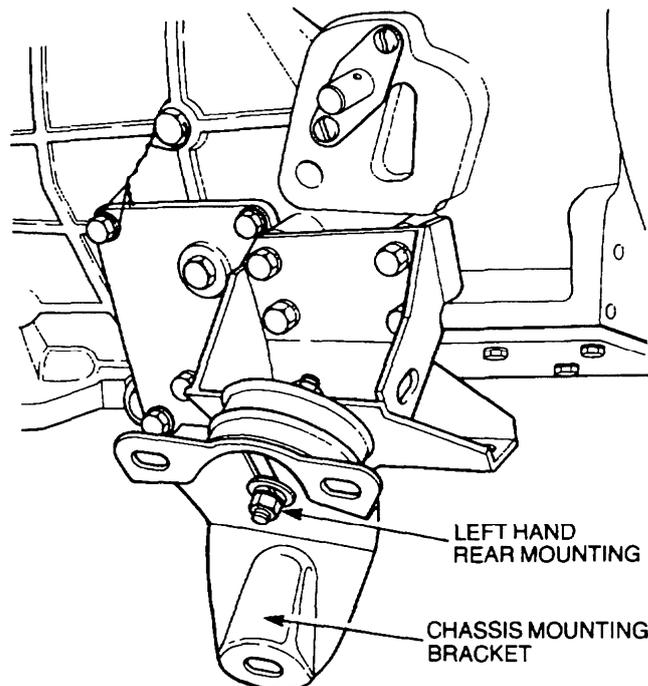

Figure 2 Engine Rear Mounting Removal
- Remove the nuts and washers securing both mountings to the transmission and chassis mountings (Figure 2).